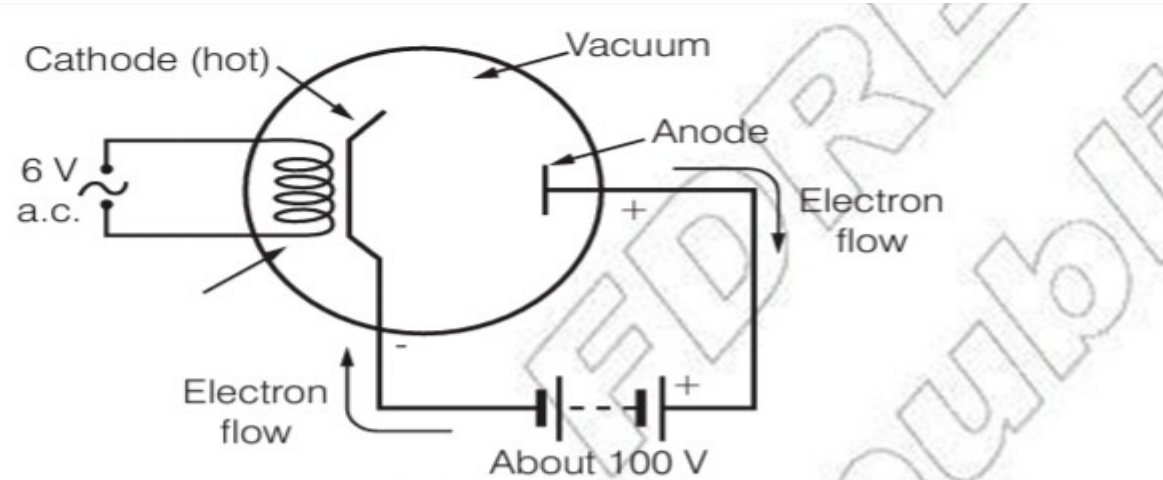

Figure 5.1 Thermionic diode.
- ❖ **the main use of device (diode)** was for rectification. i.e to obtain a d.c current from alternating voltage. It behaves like a valve in a water pipe and permitted one-way flow only. Current could pass across it in the direction shown in figure 5.1 but if the polarity of the main battery was reversed the cold anode would not emit electrons into the vacuum and so current would not flow.